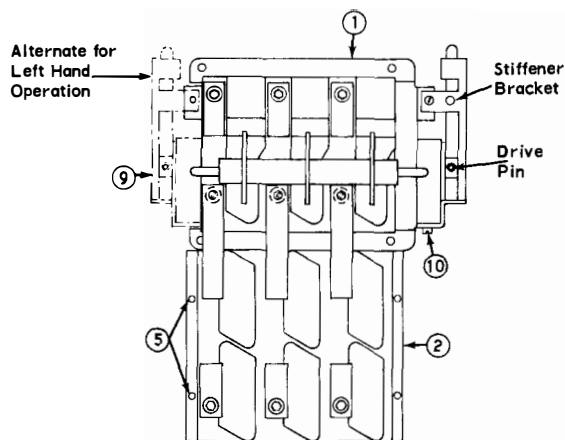

Figure 1
2. Cut (1) rod assembly, item 3, for operating rod to length ($L = D - 3\frac{7}{8}$. See Fig. 5 for D dimension.) Turn drive pin so correct stamping shows above tapped hole, either R.H. (right hand) or L.H. (left hand), to correspond with side on which operating mechanism is mounted and screw rod in TEN full turns. See Fig. 1.